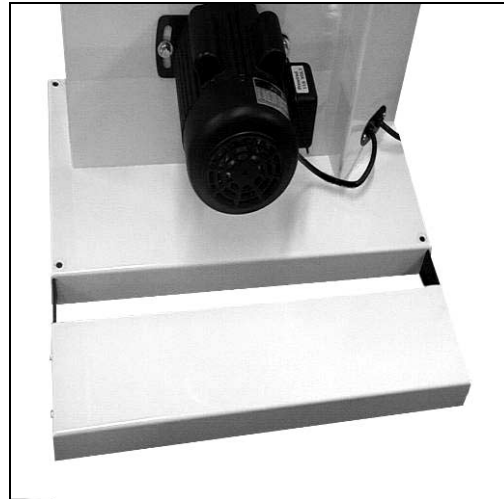

Figure 1B
3. Insert straps through slits in base of machine lining up holes in machine base with tapped holes in strap (Fig 1B)